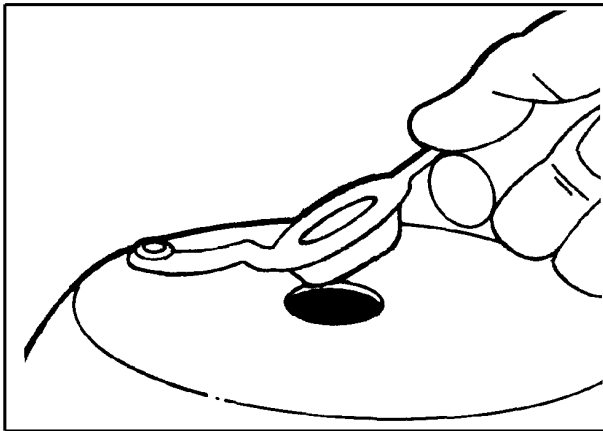
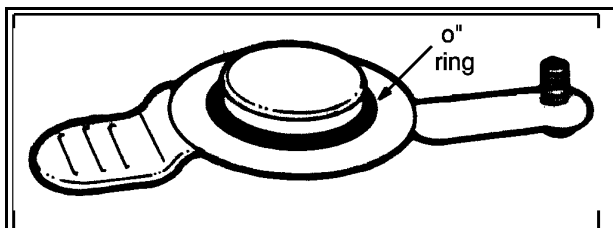

Figure 5 Plastic End Cap
Figure 6 Plastic End Cap with “O” Ring
1. The plastic WEATHER SEAL END CAP (Figure 5(See Figure 5, page 5)) requires no positioning or maintenance, but must be snapped tightly in place. Inspect the cap for damage and replace as necessary. Units equipped with a WEATHER SEAL END CAP must be equipped with a rubber “O” ring (Figure 6(See Figure 6, page 5)) to ensure proper sealing of the spring brake chamber.
2. Remove the plastic end cap from the spring brake chamber (Figure 5(See Figure 5, page 5)).
8. Replace the END CAP properly (Figure 5(See Figure 5, page 5)). Be sure the “O” ring is installed in the plastic end cap (Figure 6(See Figure 6, page 5)).